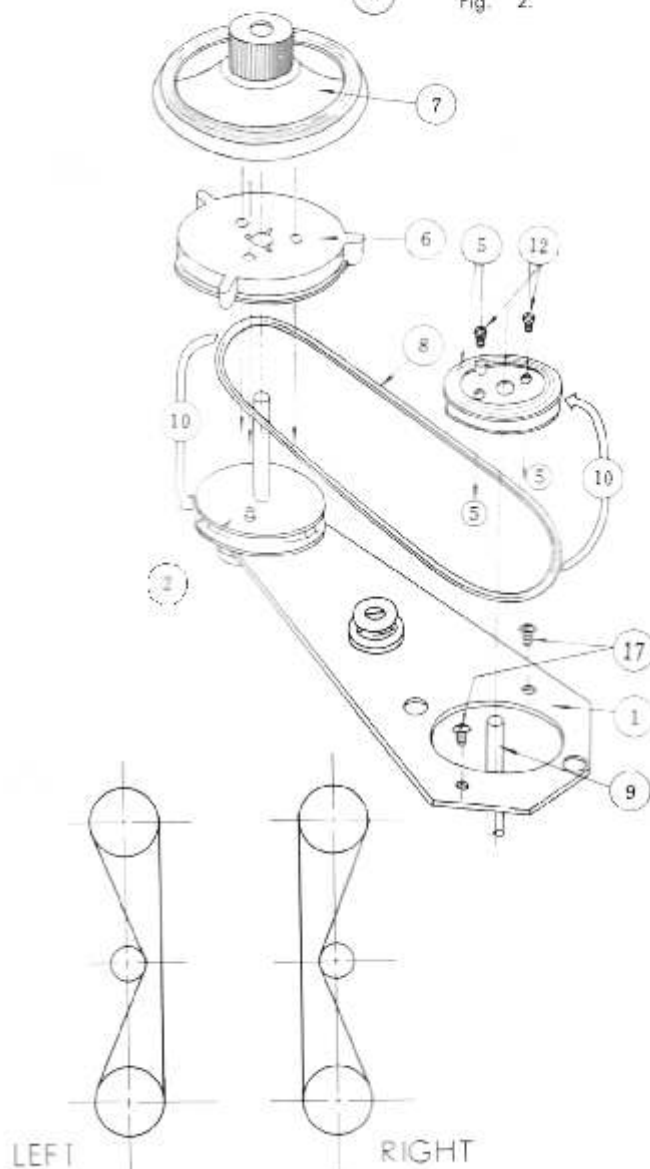
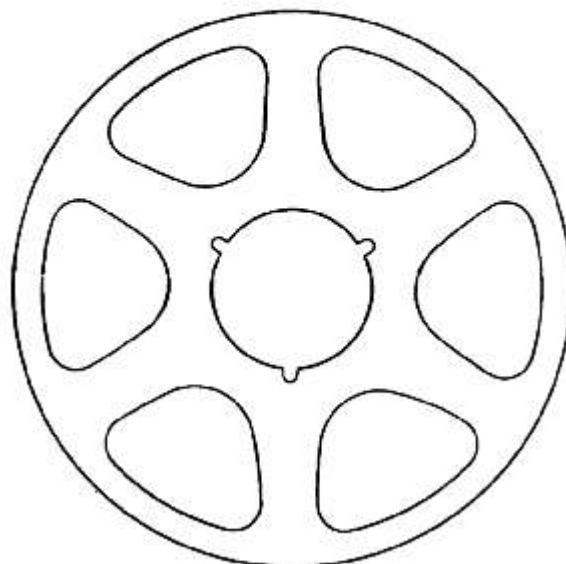

Fig. 3.
Fig. 5
## 3. Installation : (Refer to Fig. 3.)
Set the Belt (8) on Belt Groove and 7" Reel Table on the RTMA type reel table in Fig. 3.
This type of reel can be used on Reel Table (2) of Fig. 3.
This type of reel is shaped in its core as shown in Figure 5, and is mostly made of metal. This reel is to be used by putting the NARTB type reel adapter (6) in Fig. 3 on the RTMA type reel table (2) of the same figure.
When 10-1/2" reel is used, it is important to hold it on the reel shaft as tight as possible using the reel retainer (7) shown in Fig. 3. Put the reel retainer by slightly rotating it in either direction to hold the 10-1/2" reel tight in position.